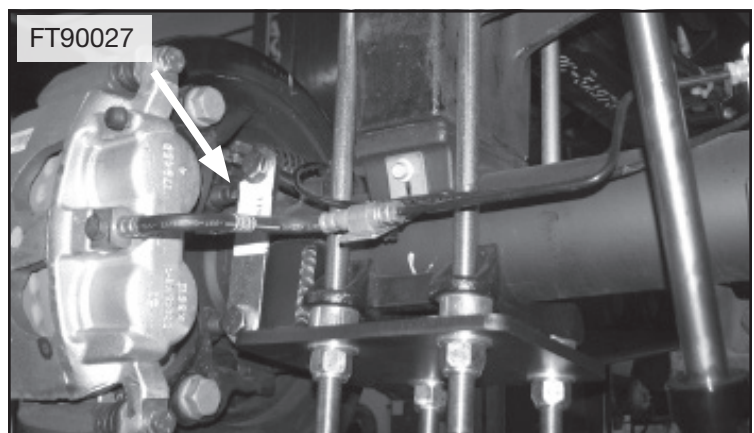

FIGURE 5 - STEP 5
5. Using two 1/2-13 x 6" bolts, washers and nuts, install the FT31147 upper clamp bracket on the backside of the axle housing.. Torque the u-bolt nuts to 170 ft-lbs and upper 1/2" hardware to 90 ft-lbs. **SEE FIGURE 5**